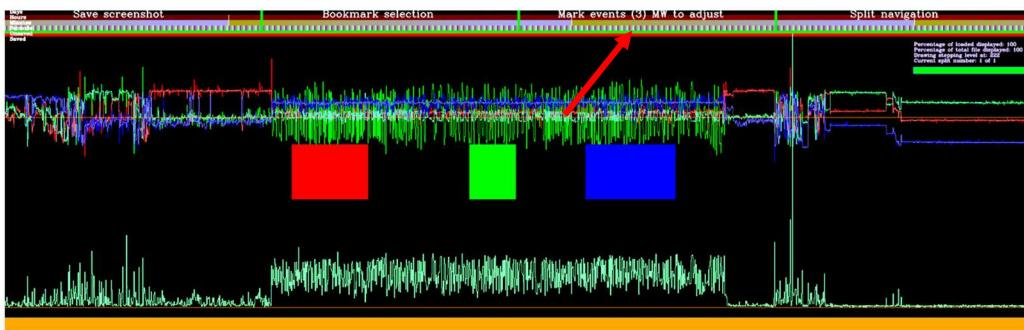

Figure 5.1 Marked Events shown as highlighted regions in red, green, and blue (Marked Events values 1,2, and 3)
**Marked Events** may be created either manually by the user by placing the left and right white lines on the **2D graphing window** as above and then left and right clicking simultaneously on the area marked in Figure 5.1 labelled “Mark events”. Also, hovering the mouse over this area and rolling the mouse wheel will change the **Marked Events** value between 0 and 9. If the value is set to 0 then the region selected will have any current **Marked Events** cleared, while a value between 1 and 9 will set that area to that value, overwriting any previous values present.